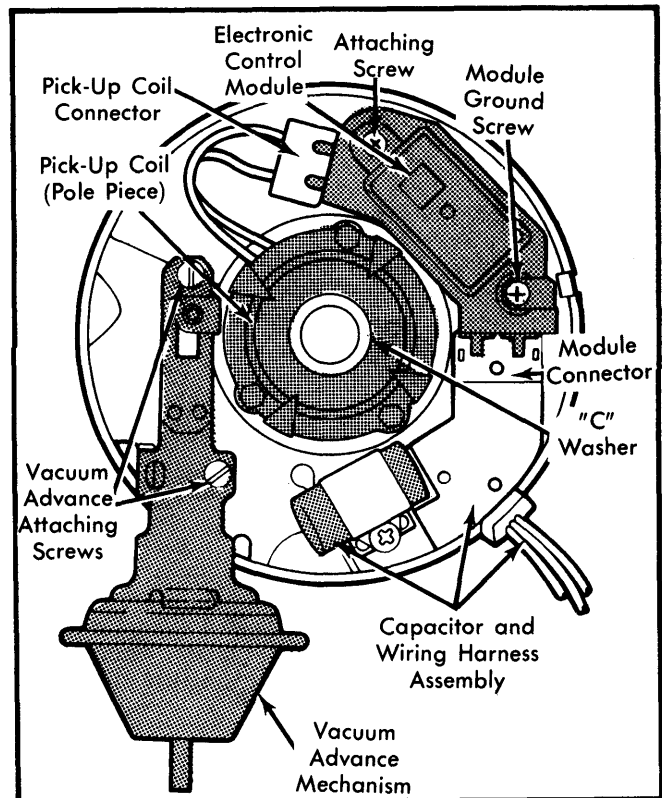

Fig. 8 Internal Components of HEI Distributor
3) Remove 2 attaching screws holding module to housing and position module so pick-up coil leads can be removed. See Fig. 8. Remove capacitor and wiring harness assembly. Remove "C" washer from housing and lift out pick-up coil assembly, using care to disconnect it from vacuum advance mechanism.